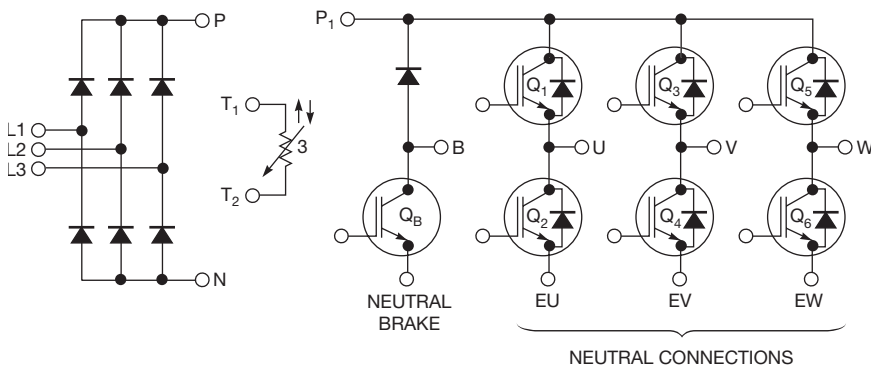

Figure 4 The Infineon FP30R06W1E3 includes rectifier diodes, an NTC thermistor, and IGBTs.
The Altivar 12 series uses the Infineon FP30R06W1E3 IGBT module and has a well-designed heat-sink assembly. The Infineon IGBT module uses an Al2O3 substrate, which gives the case a low thermal resistance that is critical to the reliability and long-term performance of the system. Aside from the input converter's diode bridge and output inverter with IGBTs, this Infineon module also has an NTC (negative-temperature-coefficient) thermistor onboard for temperature monitoring of the heat sink and an Easy PIM (personal-information-manager) module (**figures 4, 5, and 6**).
Figure 3 shows the linearity improvement you gain by using the inverse value of the voltage,  $V_s$ , versus distance. Figure 4 shows the circuit that provides a linear relationship between distance and another variable. The key component is a voltage-to-frequency converter, such as the AD654, between the sensor and the microcontroller (references 3 and 4). The sensor's response is  $1/V_s = aD + b$ , where  $a$  and  $b$  are coefficients. The VFC has a linear
**Figure 4** An AD654 VFC between the sensor and the microcontroller ensures a linear relation between pulse period and distance. A measurement calculates the 50Ω output impedance of the distance sensor. The LCD can be any generic device.